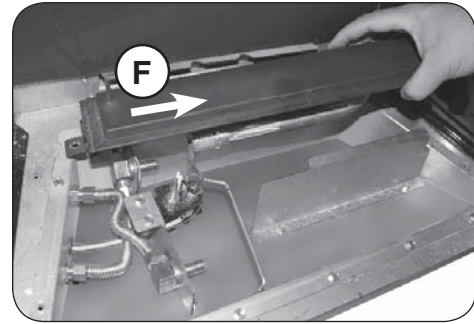

Fig. 52-2 Remove burner detail
6. Remove burners by sliding to the right, so that the venturi tubes clear the orifices, then fully out. See Fig. 52-2, "F".